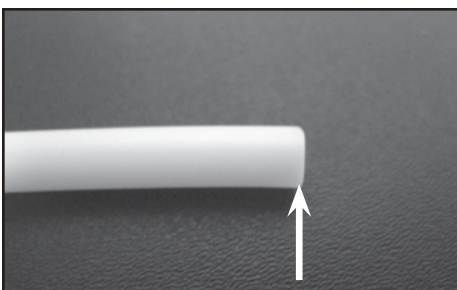
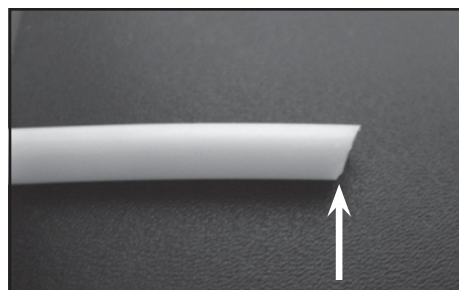
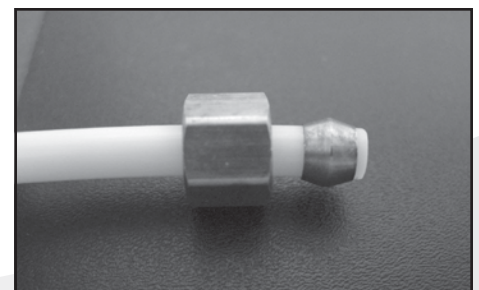

Fig. 1 (Correct)
Fig. 2 (Incorrect)
Fig. 3
7. The water dispenser includes 8 meters (26 feet) of ¼” OD flexible water line. If additional water line is needed, it can be purchased at your local hardware store. Cut the desired length to suit your installation requirements, making sure both ends of the water line are cut straight/square (See Fig. 1 & Fig. 2). Remove the compression nut and compression ring from the valve and install on the water line (See Fig. 3).